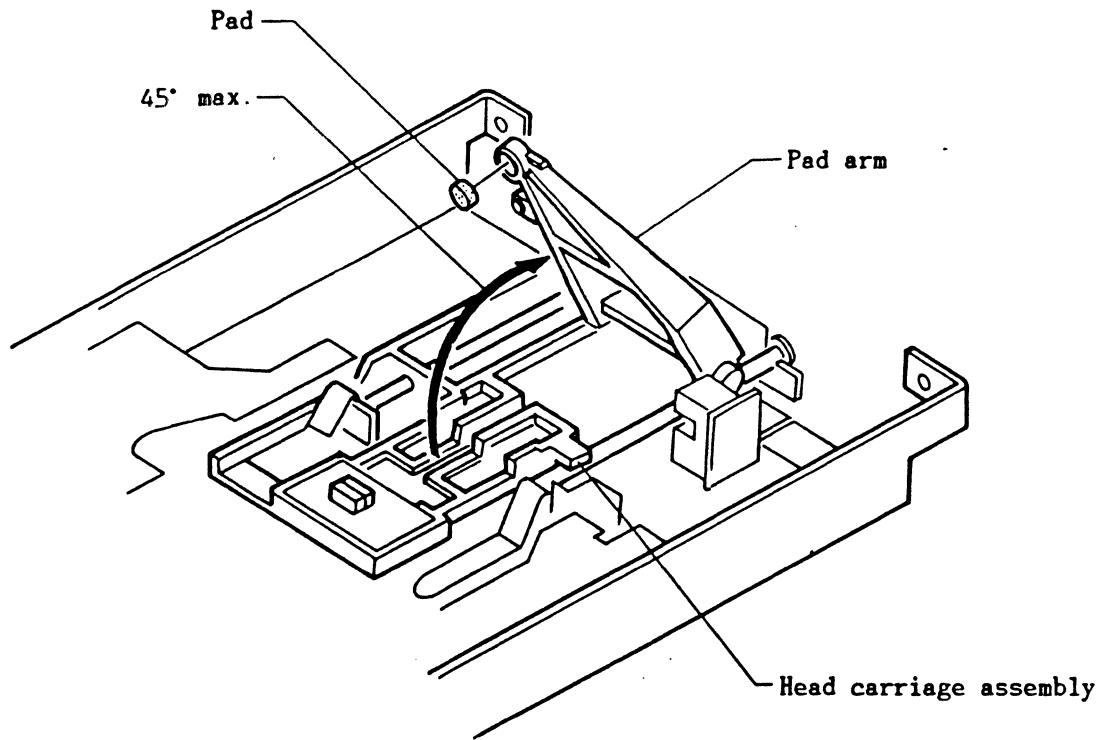

Fig. 419 Replacing Head Pad
- (2) Raise the pad arm by hand, and carefully peel off the pad by the tweezers (see Fig.419).
- (3) Attach a new pad in the original position carefully. Do not excessively press the pad surface.
- (4) According to 4-3-2, clean the magnetic head surface.
- (5) According to 4-4-3, adjust the head pad position.
- (6) According to 4-4-5, inspect the read level.
- (7) According to 4-4-6, inspect the resolution.
- (8) In the procedure reverse to (1), mount the shield plate.